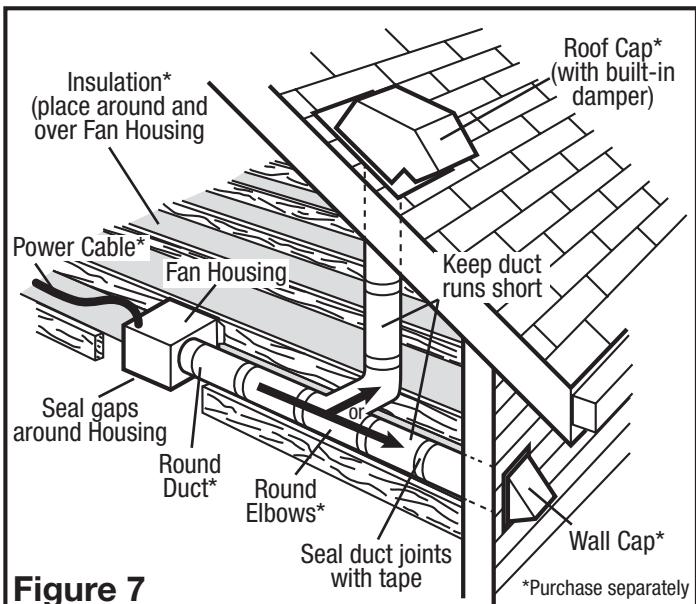

Figure 7
2. Ensure duct joints and exterior penetrations are sealed with caulk or other similar material to create an air-tight path to minimize building heat loss or gain and to reduce the potential for condensation. Place/wrap insulation around duct and/or fan to in order to minimize possible condensation buildup within the duct, as well as building heat loss or gain (**Figure 7**).